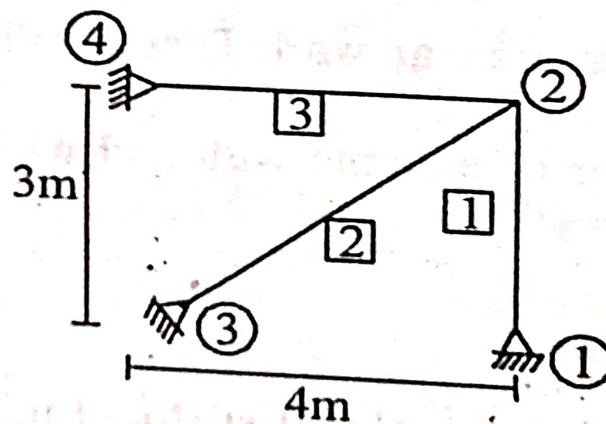

Fig. 2.
- (b) If the member 2 of framed structure shown in Figure. 2. is shorten by 0.01 m. Determine the force in members. Assume $AE = 8 \times 10^6 \text{ N}$.